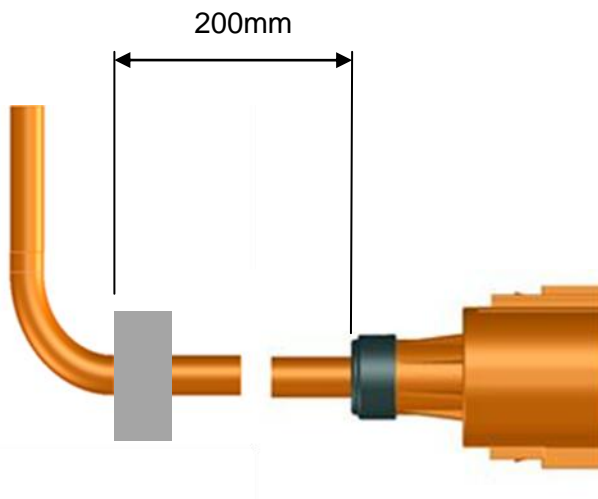

Figure 9
8.1 To ensure the receptacle harness operates optimally, avoid bend radii within 200mm of the harness as shown in Figure 9.